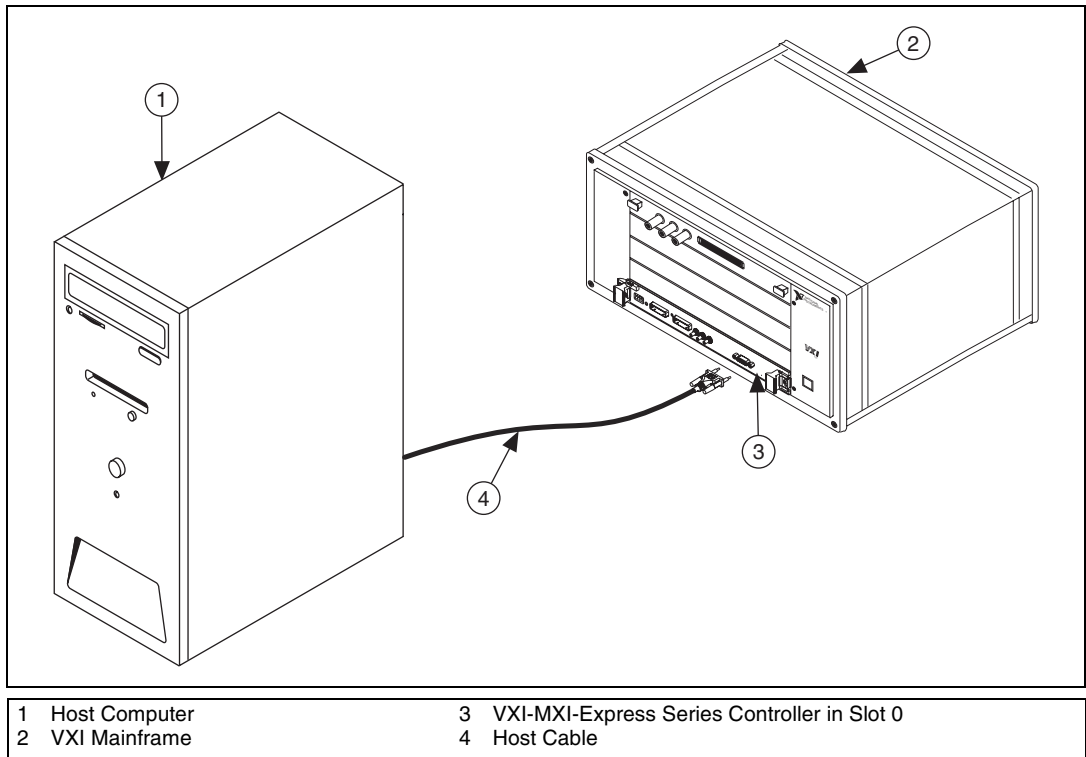

Figure 2-2. Host System with VXI-MXI-Express Series Controller
3. Insert the VXI-MXI-Express Series controller into the chassis in Slot 0, as shown in Figure 2-2.
Figure 2-2 shows a system that includes a PCI Express-based host computer and a VXI-MXI-Express Series controller.